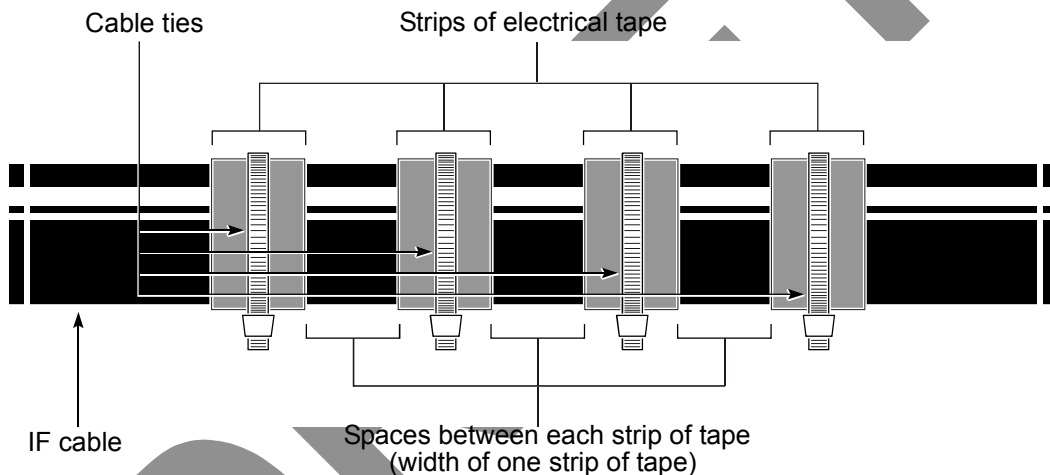

Figure 32 – Applying bands of tape
2. Create bands by wrapping strips of tape around the cable, leaving a space equal to the width of the tape between bands. See *Figure 32*.
3. Apply a cable tie securely around the center of each band to prevent the band from falling off the cable. See *Figure 32*.